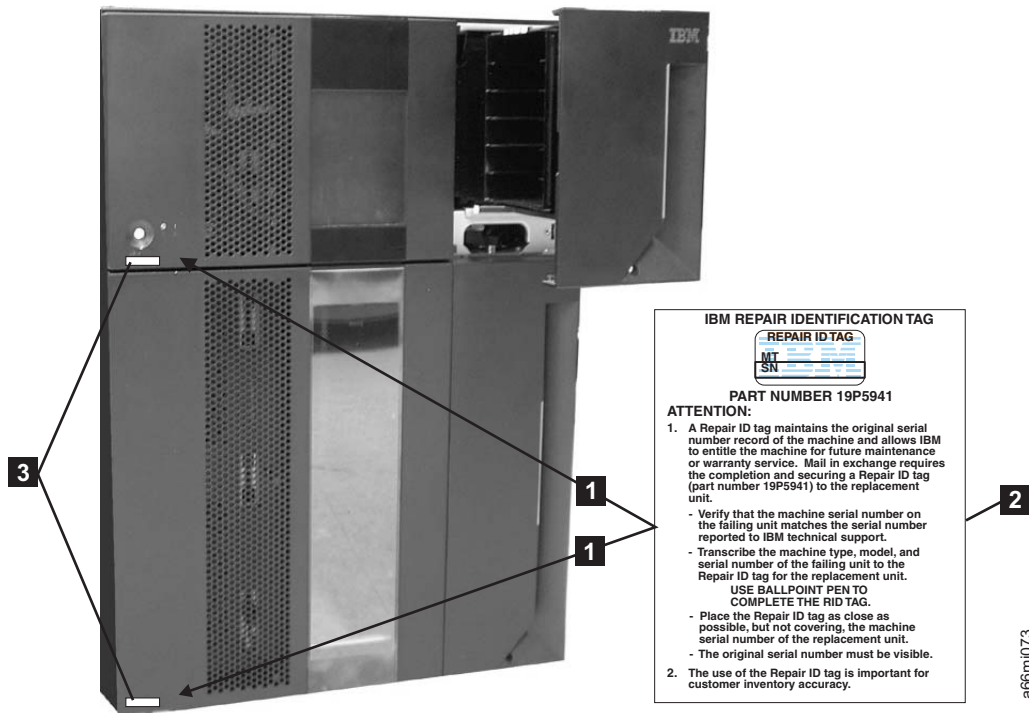

Figure 7-19. RID tag placement
1. Copy the serial number from the label in the lower left corner of the old enclosure onto the RID tag (**2** in Figure 7-19).
2. Place the RID tag to the right of, but not covering, the serial number label located in the lower left corner of the new library enclosure (**1** in Figure 7-19).